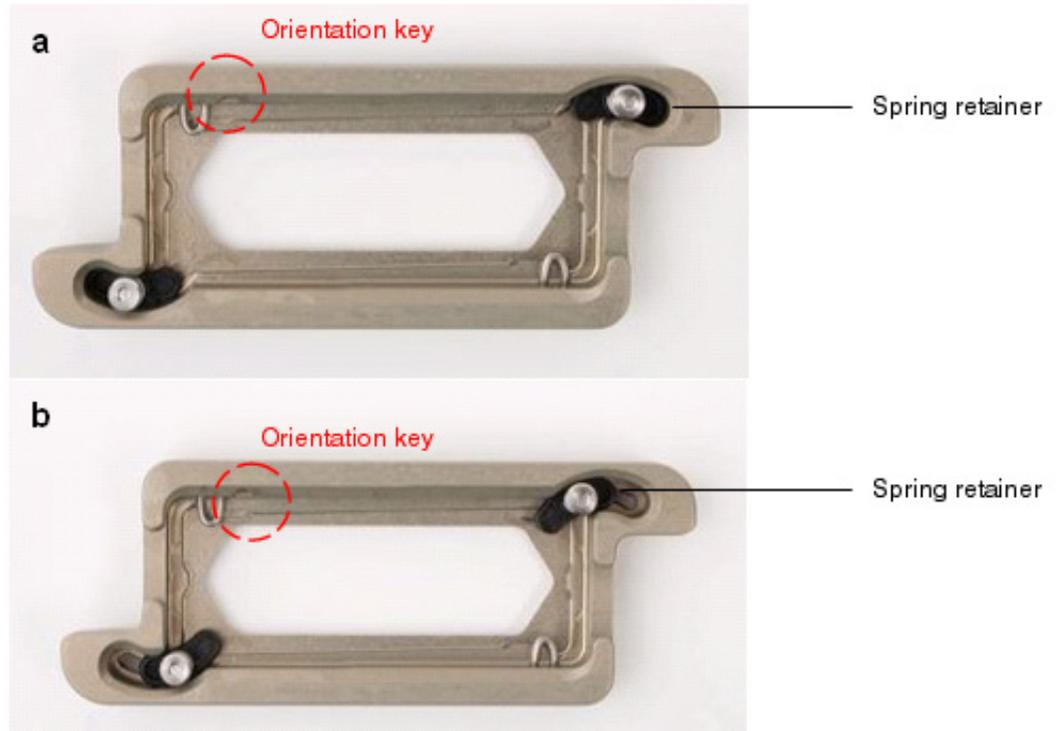

Figure 11 Slide carrier (a) with spring knobs pushed out and (b) with spring knobs pushed in.
2. Insert a new slide into the SOLiD™ Slide Carrier (see Figure 11 on page 19):
- a. Move the retainers so that the slide can fit into the SOLiD Slide Carrier. Push down on the two spring knobs in the SOLiD Slide Carrier and slide the knobs towards the outside edges of the carrier (see Figure 11 on page 19, Figure 11a).
- c. Ensure that the slide is precisely positioned in the SOLiD Slide Carrier and then slide the retainers inward until they hold the slide in position (see Figure 11 on page 19, Figure 11b).